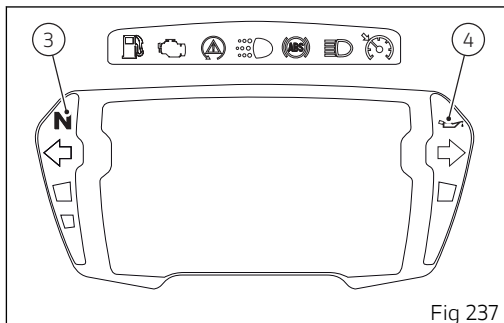

Fig 237
The red oil pressure warning light (4, Fig 237) should go out a few seconds after the engine has started. The engine will shut off by turning the red button (1) on the handlebar to RUN OFF. To turn on the "Hands free" system and all electronic onboard systems, refer to "Hands Free System" Chapter.